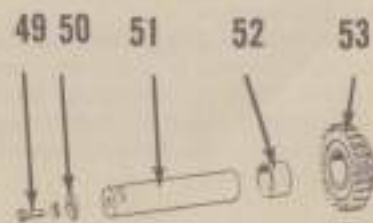

Fig. 124 — Exploded view of the D-17 reverse idler gear and shaft. Bushing (52) is renewable.
To remove the reverse idler shaft, proceed as follows: Remove cap screw (49—Fig. 124) and lockplate (50) from differential compartment. Thread slide hammer adapter into rear end of shaft, pull shaft from housing and remove gear out top opening of transmission.